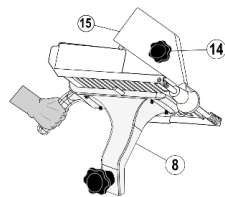

FIG 5. USING CARRIAGE TRAY
3.- Push the grip (15) by the grip knob (14) all the way down on the product. To slide the carriage back and forth use the carriage handle (8) (See Fig. 5).
4.- Move the carriage assembly all the way back and select the thickness using the slice adjusting knob (6).